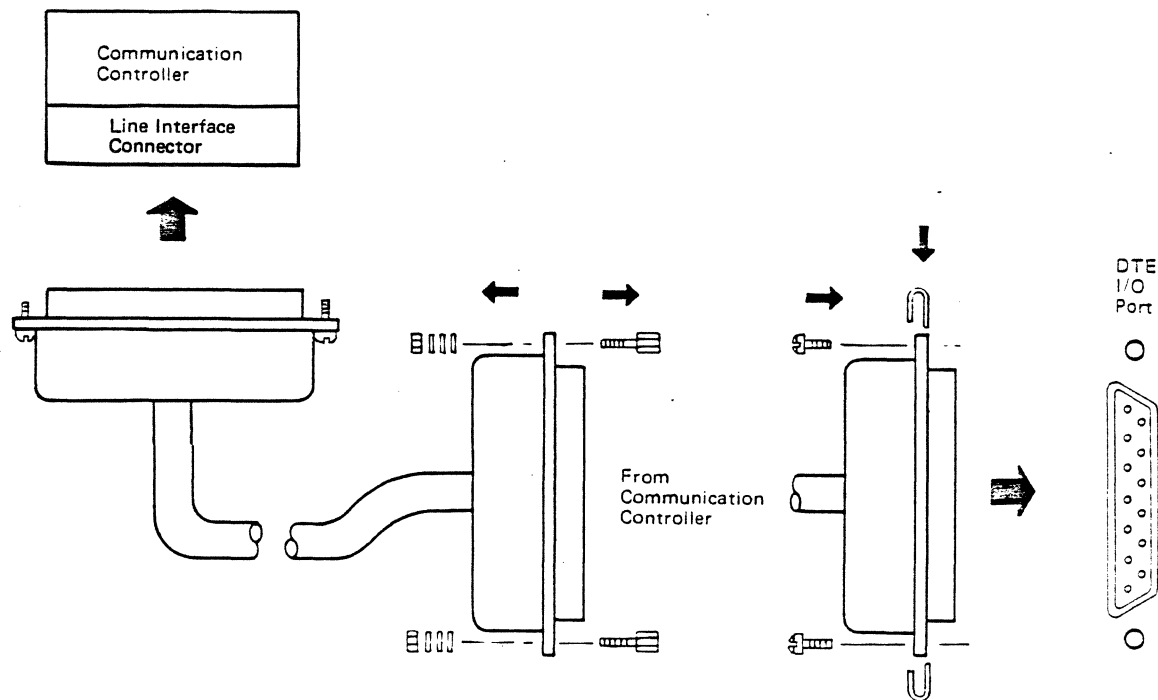

Figure 8-9. Connecting the Communication Controller to the Matrix Switch Using the Direct Attach Feature Cable
1. Remove existing hardware (nuts and washers) from the EIA (DCE) connector on the direct attach feature cable (Figure 8-9).